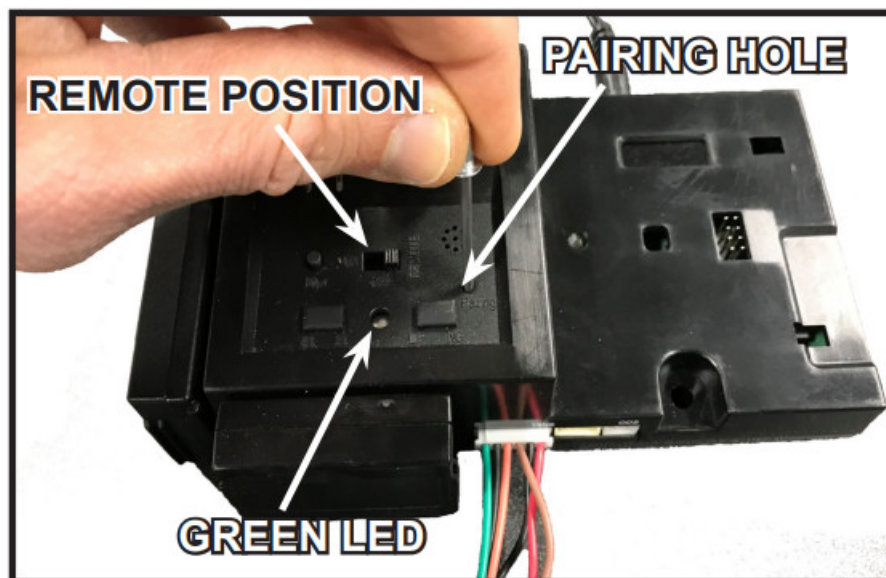

Figure 4 Pairing IFT2-ECM
2. Locate the pairing hole on the ECM. See Figure 4.
4. Locate the pairing hole on the ECM. See Figure 4. Using a paper clip or similar item, press and release the pairing button. The ECM will “beep” once and the green LED blink for 14 seconds. During the 14 seconds, it is normal for accessories such as lights or fan to energize momentarily.